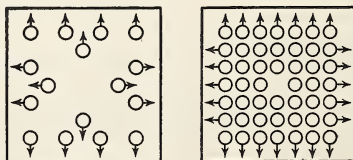

FIG. 121. Increasing the number of molecules in a container increases the pressure.
97. Gases exert pressure. Pneumatic tires may burst from the pressure which the air inside exerts on the walls of the tire. This pressure is due to the constant bombardment of the tires by billions of moving molecules. If we pump three atmospheres into the space formerly occupied by one atmosphere, there will be three times as many molecules bombarding the walls of the container, and the pressure will be three times as great. From Fig. 121 we see that tripling the number of molecules in a given space will triple the pressure because there will be three